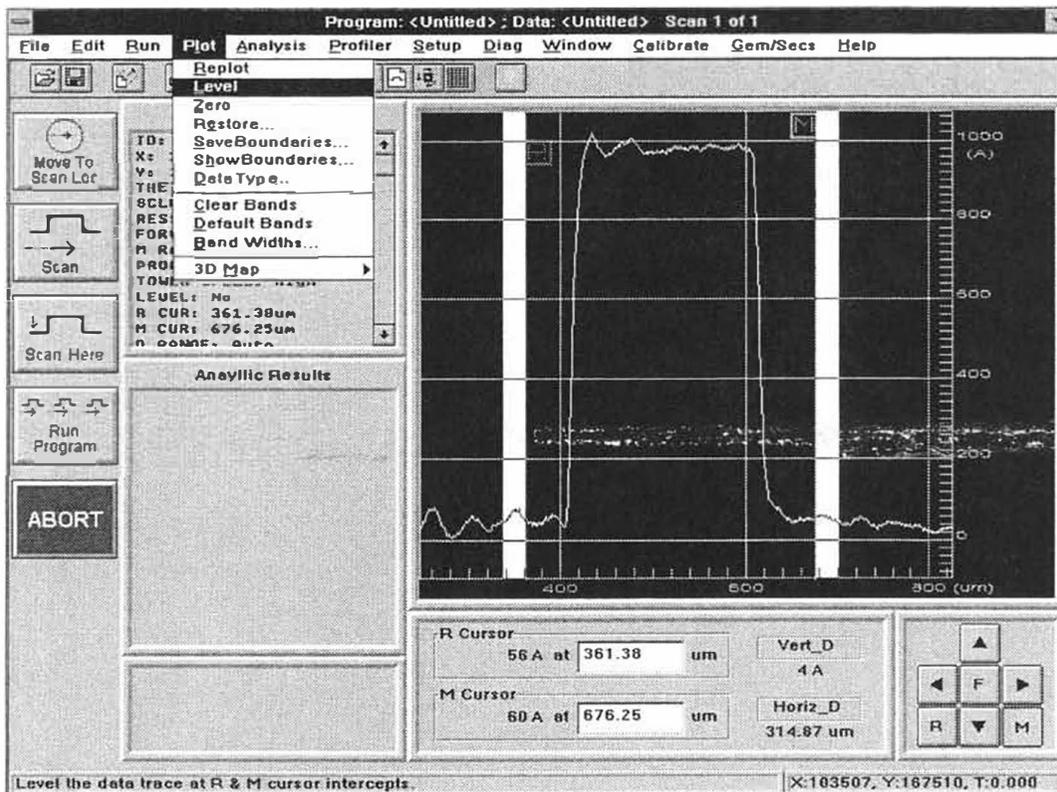

Figure 10-2. Calibration Standard Step Height
5. Click-on "Scan Here" a second time, and software level the trace as described in Section 4. The resulting profile should resemble Figure 10-2 below.